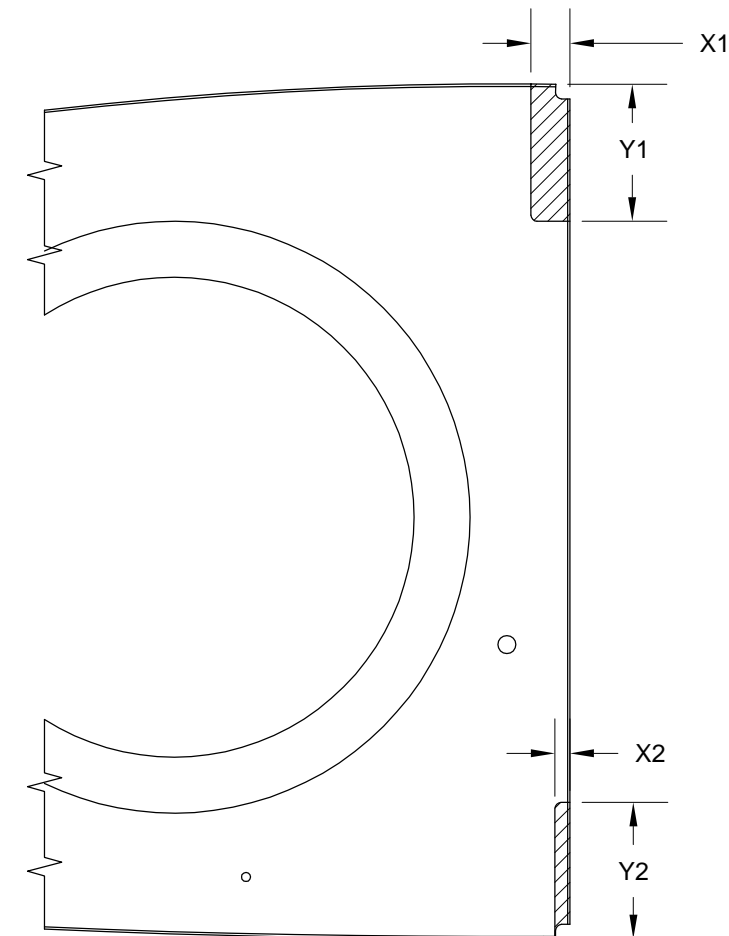

FIGURE 3: LEADING EDGE RIB TRIM
Step 4: Modify two W-1009-L for the left wing assembly and two W-1009-R Leading Edge Ribs for the right wing assembly per the dimensions given in Table 1 and as shown in Figure 3. This will create W-1009-1L, W-1009-2L, W-1009-1R and W-1009-2R. The ribs must be notched to fit around the spar bars and rivet heads on the main spar assembly. Because the main spar bars are stepped (spanwise thickness changes) two different modified ribs will be required, see the isometric view on Page 17-01.